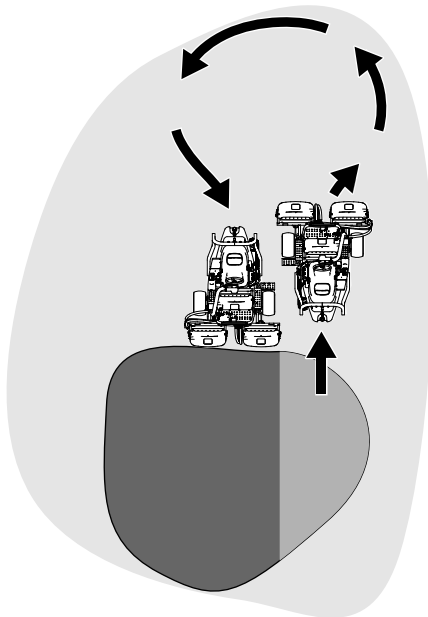

Figure 30
6. To cut down on operating time and to ease the lineup for the next pass, momentarily turn the machine in the opposite direction, then turn it in the direction of the uncut portion. This movement is a tear-shaped turn (Figure 30), which quickly lines the machine up for your next pass.